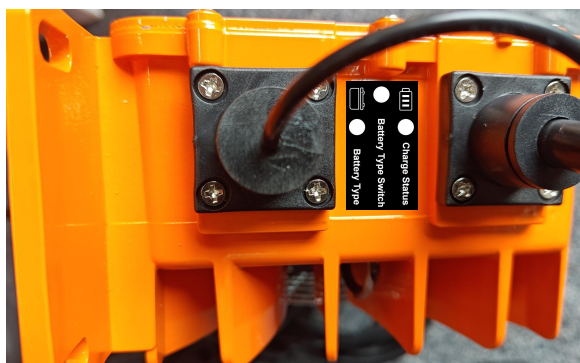

Fig1
- Before charging, determine the type of battery of the equipment to be charged, and press the battery type switch to rotate the battery type, and check whether the battery voltage of the charging device is consistent with the charger.(See Fig1)